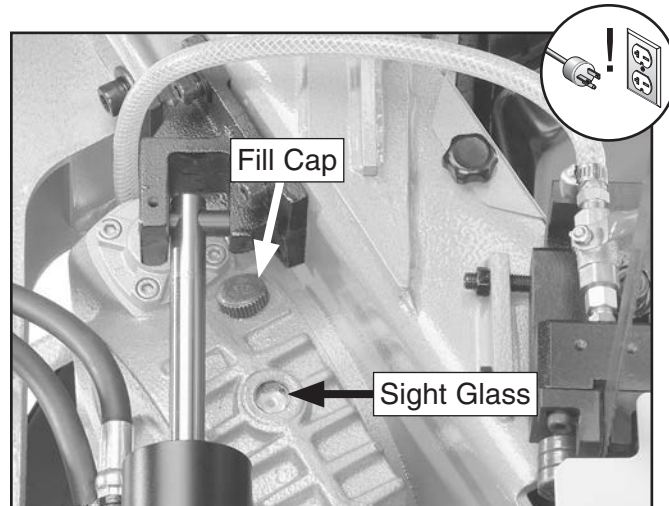

Figure 75. Location of gearbox sight glass and fill cap.
4. Check oil level in sight glass (see **Figure 75**).
5. Remove fill cap, add oil until it fills half of sight glass, then install fill cap (see **Figure 75**).